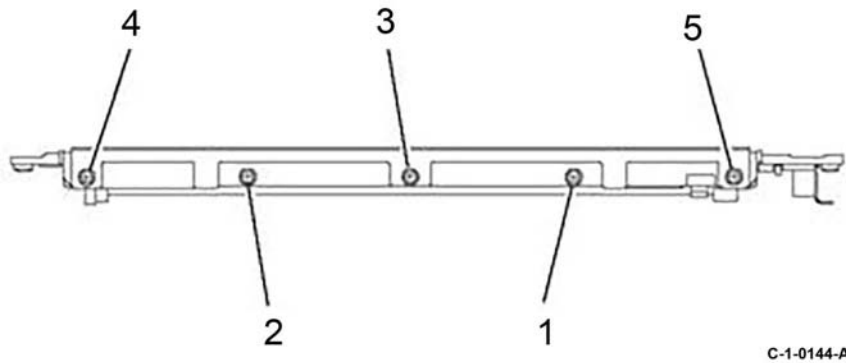

Figure 4 Screws
2. When installing the lamp assembly, first tighten screw (1), then screw (2), Figure 4.
3. When installing the LED bracket, first tighten screw (3), then screw (4), then screw (5), Figure 4.